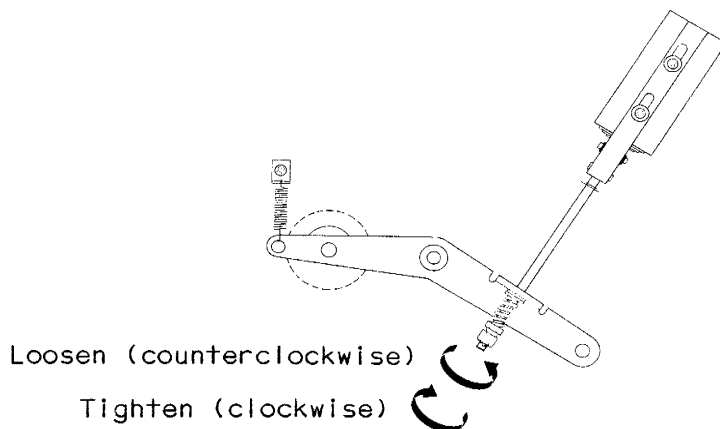

Figure 6-5 Pinch Roller Pressure Adjustment
This force is adjusted by means of the nut shown in Figure 6-5.
6. If a proper scale reading was not obtained in step 5, loosen the locknut and adjust the pressure nut as shown in Figure 6-5. Turning the pressure nut towards the spring increases pinch roller pressure. Tighten the locknut.